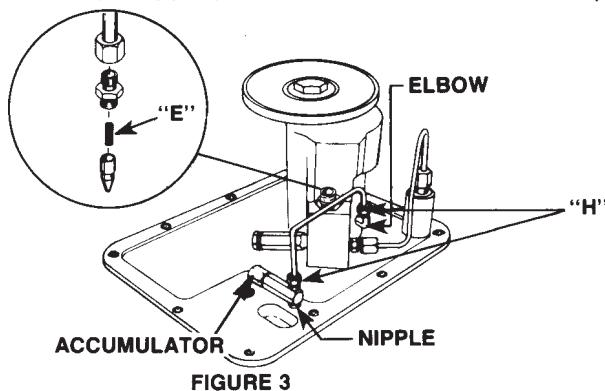

FIGURE 3
6. Replace the existing spring (see Figure 3, Inset item "E") with the supplied Spring, (Part Number 10362. [.047" dia. wire X $\frac{3}{4}$ " lg.]) Reinstall the connector.
13. Screw the accumulator onto the pipe nipple. Position the accumulator as shown in Figure 3.
14. Assemble the $\frac{3}{16}$ " tube assembly as shown in Figure 3. Tighten the fitting nuts "H" securely but do not over tighten.